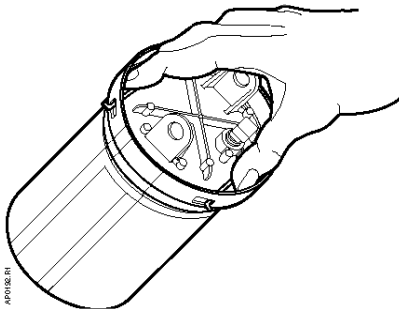

Figure 6.
11. Secure the prongs of the retainer clip in place by compressing the retainer clip. This may be done either by hand or with the blade of the screwdriver. See Figure 6.